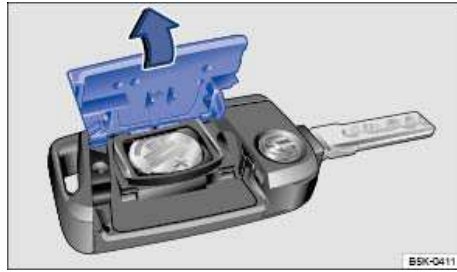

Fig. 19 Remote control vehicle key: Open battery compartment cover.
The battery is on the back of the remote control vehicle key under a cover ⇒ fig. 19.
- Remove the cover on the back of the remote control vehicle key in the direction of the arrow ⇒ fig. 19 using a suitable object such as a coin ⇒ !.
- Position the cover as shown ⇒ fig. 19 and press it down (opposite direction of the arrow) until you hear it click into place.